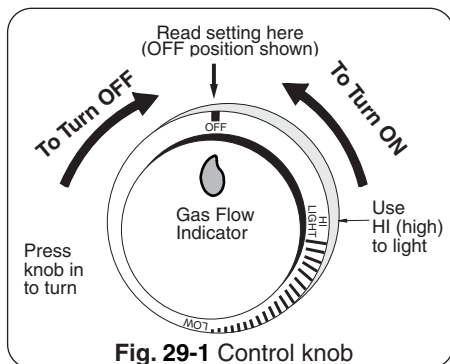

Fig. 29-1 Control knob
**For your convenience and safety; when the control knob is turned to the on position, the gas flow indicator will change from blue to red. (Red indicates gas flow.) See Fig. 29-1.**